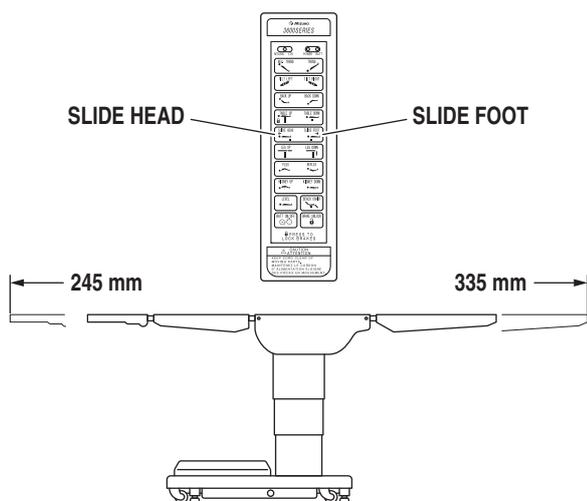

Figure 2-11. Top Slide
**f. Top Slide** To move the table top toward the head end, press the SLIDE HEAD button. From center position, the top will slide up to 245 mm. See figure 2-11.